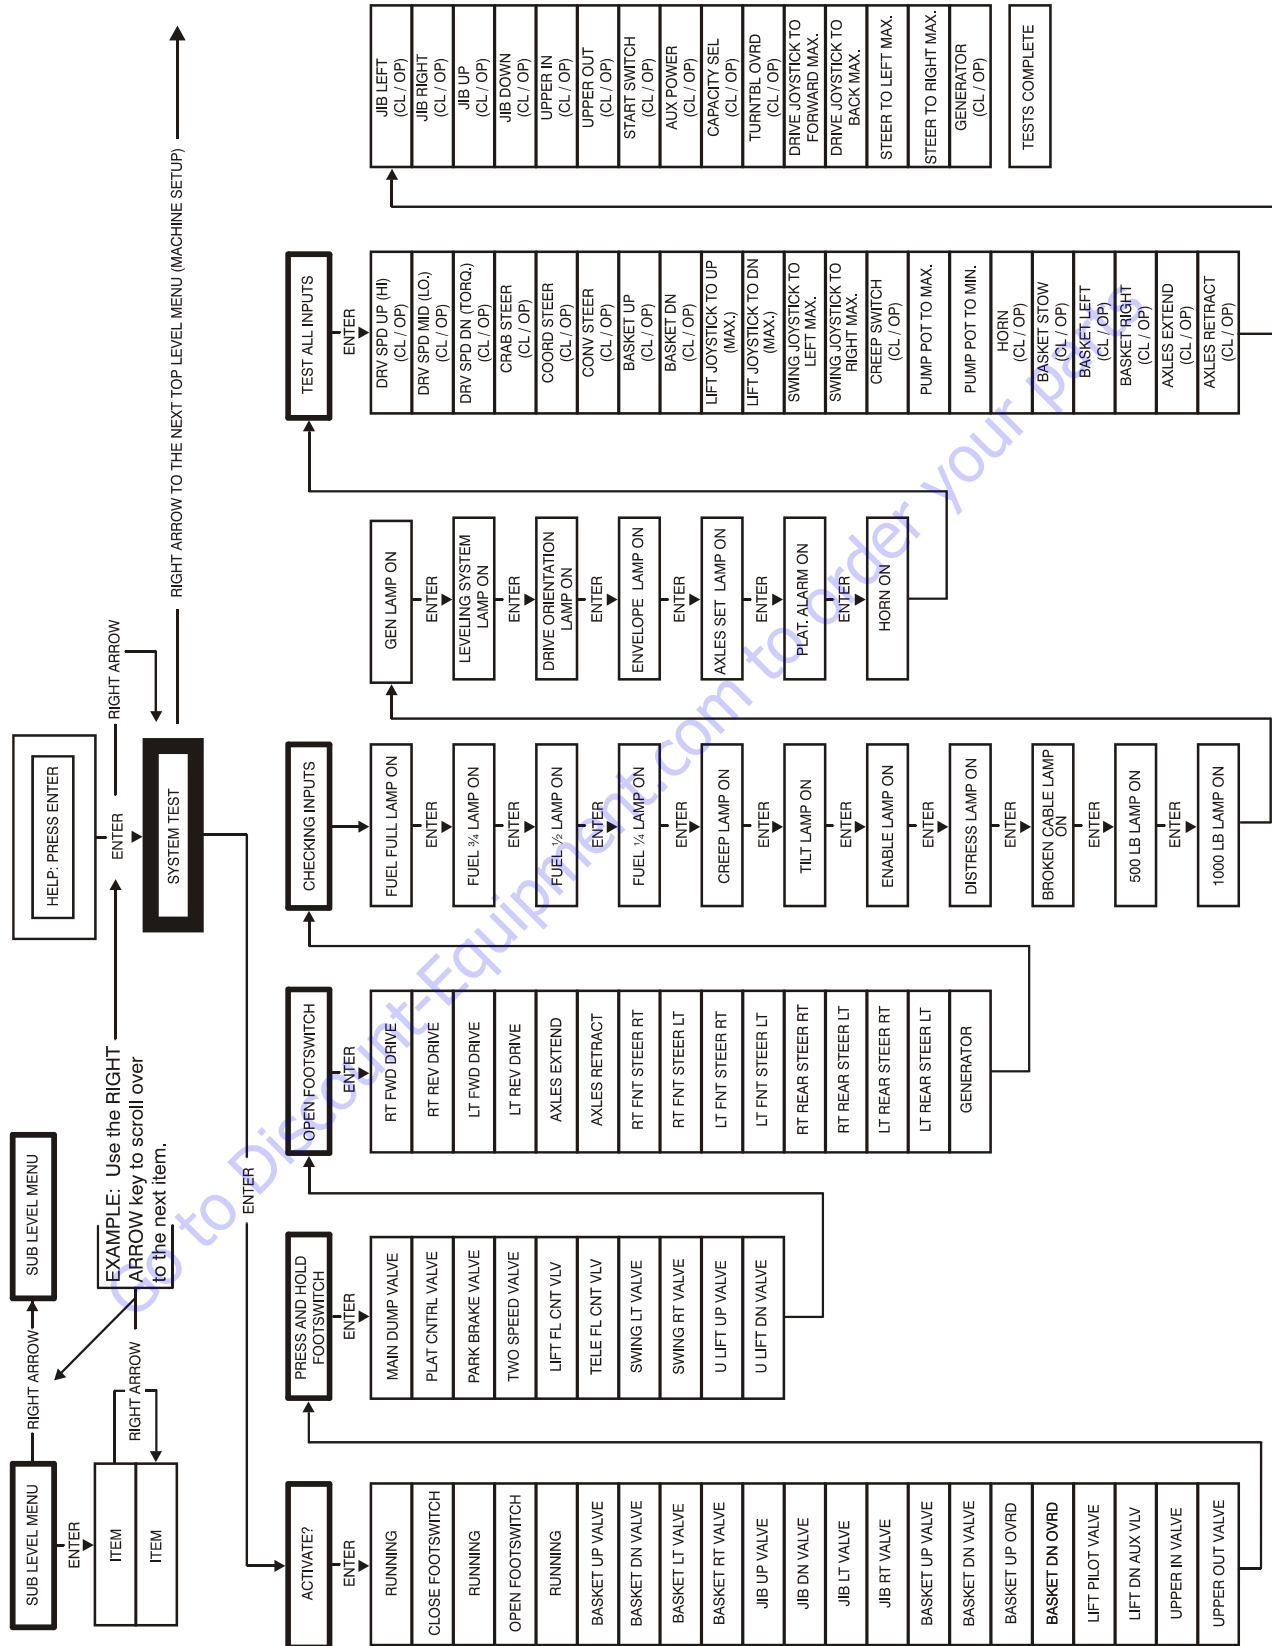

Figure 6-17. System Test Flow Chart - Platform Tests
7. Follow the flow path in Figure 6-17., System Test Flow Chart - Platform Tests and go through the component tests. Hit the ESC key during any part of the test to return to the main menu without completing all tests or wait until all tests are complete. During the TEST ALL INPUTS sequence, the analyzer allows control switches to be operated and shows if they are closed (CL) or open (OP).